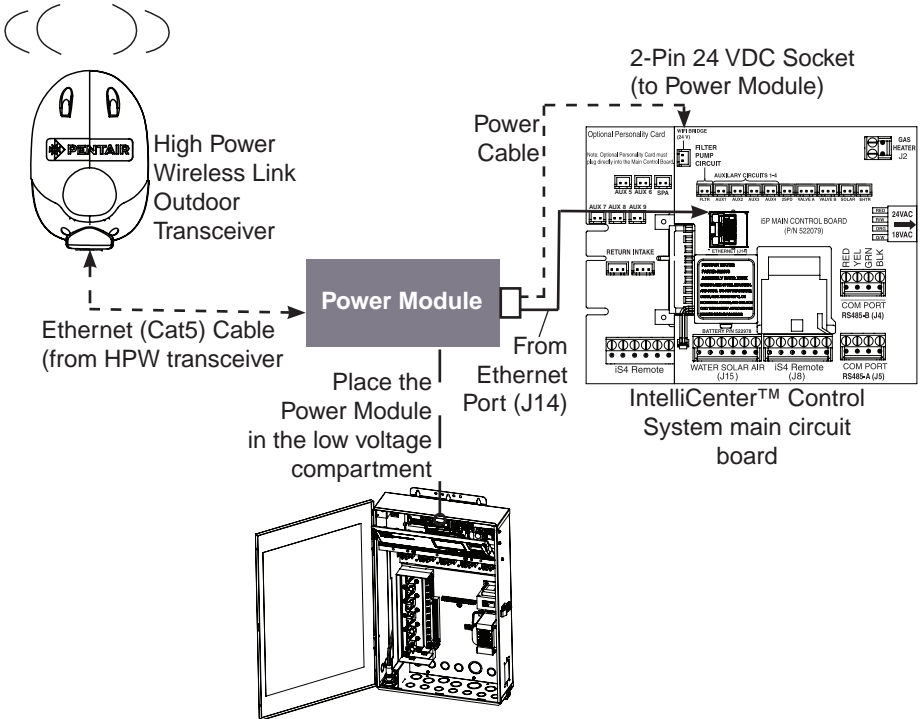

Figure 8. Power Module Connection
11. **Home Wireless Router Location: Connect Ethernet Cable (cat5) to Indoor HPW Link Transceiver and to Home Wireless Router (See Figure 8 on page 14):** Connect the Ethernet cable (provided) to a port on the home wireless router. Connect the other end of the Ethernet cable to the HPW Link indoor transceiver.